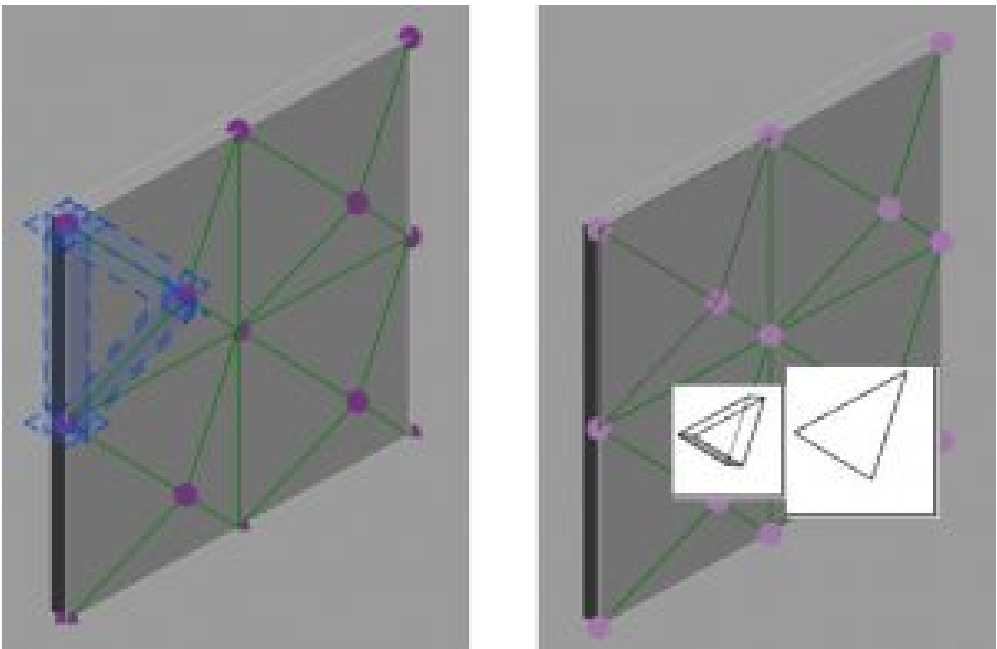

Figure 7.11 (left) Three selected reference planes used to create a solid form and (right) options to create a solid
30. While holding down the Control key, select 3 reference lines that create a triangle as shown in Figure 7.11
32. Two images will pop-up, click the 2D (flat) image on the right as shown in Figure 7.11